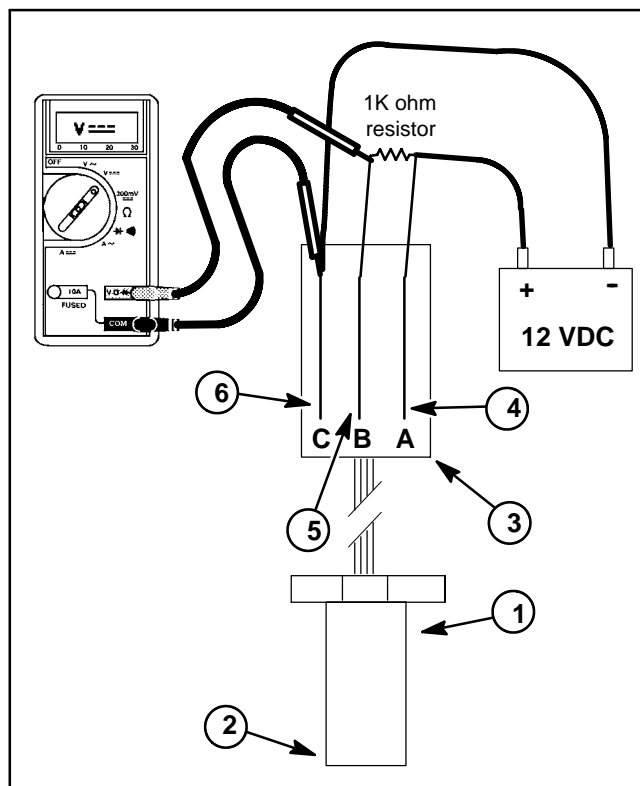

Figure 19
4. Connect positive multimeter test lead to the sensor connector gray striped wire terminal and the negative multimeter lead to the connector black wire terminal (Fig. 19). Set multimeter to ohms setting.
5. Using a +12 VDC battery, a multimeter, a 1K ohm resistor and appropriate jumper wires, connect the battery and multimeter to the speed sensor using Figure 19 as a guide.